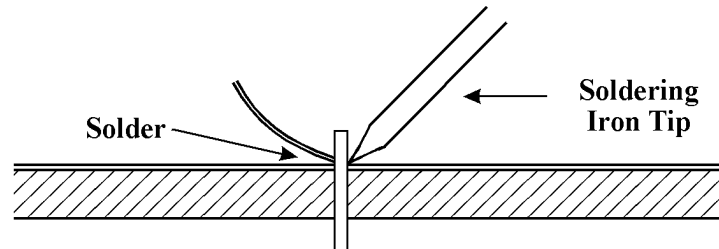

Figure 2
- 5.3 Apply solder to the component lead **opposite** the soldering iron and permit the solder to melt evenly around the connection as indicated in *Figure 2*. **Do not** apply solder directly to the soldering iron tip.